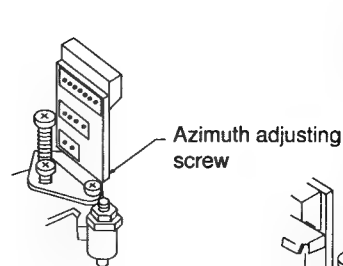

Figure 4-39.
- Use the alignment tape and play back its audio 6 kHz signal (monoscope pattern for video signal). Adjust the azimuth adjusting screw to obtain the maximum audio output on an oscilloscope. (See Figure 4-39.)